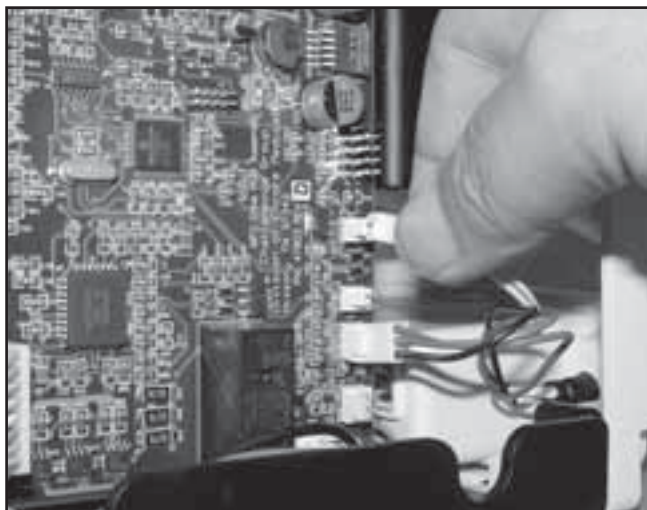

FIGURE 5.14
- a. Disconnect Solenoid Harness from J8 on Motor Control Board. See Figure 5.14.